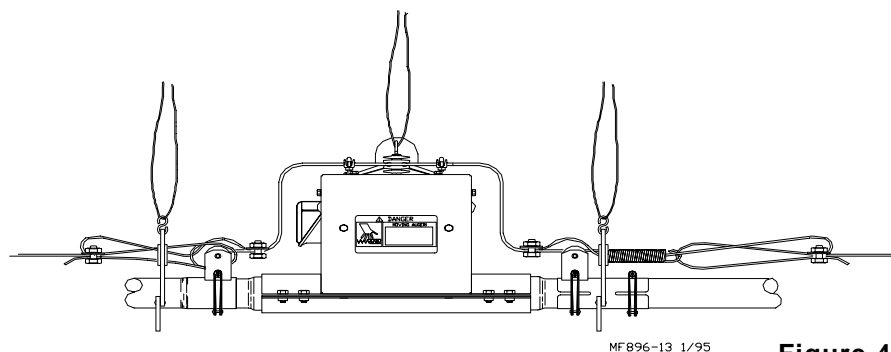

Figure 47. (Side View)
10. Pull the cable tight so that there is 3/4" to 1" (19 to 25 mm) of stretch in the spring. Clamp the cable to form a loop. Thread the excess cable through the spring and clamp to Anti-Roost Wire. See **Figure 47**.
11. Attach the cable to the insulator on the outgoing side of the power unit. For best results, make a double loop around the center groove of the Anti-Roost insulator and fasten with a 1/16" cable clamp as shown in **Figure 47**.